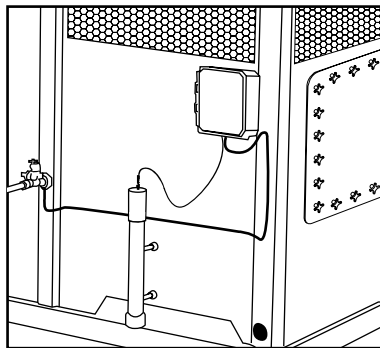
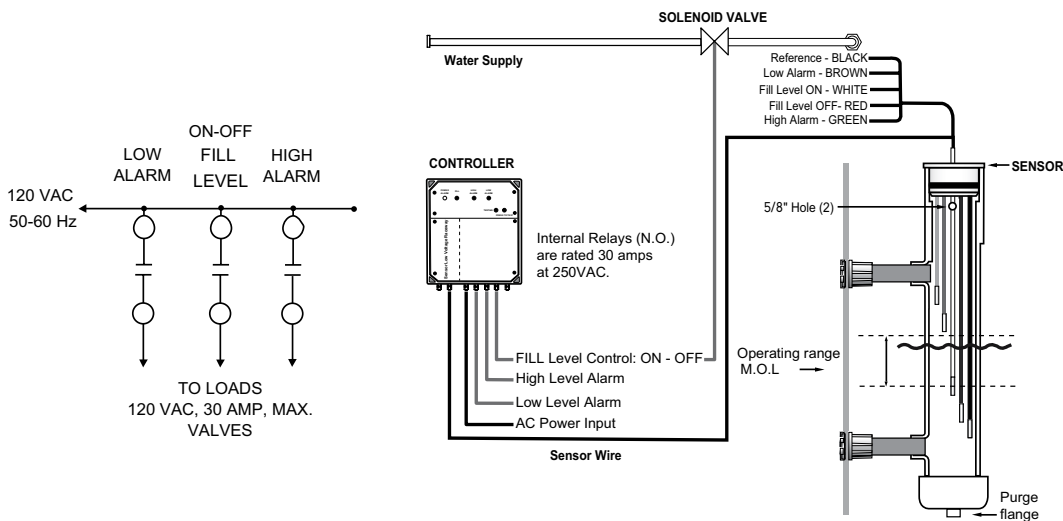

Figure A-52: Electrical Water level control system
Figure A-53: Electrical Connections & Water Level Control Parts
Electric water level control system is an optional accessory offered by REYMSA includes water level controller, stilling chamber, and solenoid valve for water make up (see Figure A-52 & Figure A-53).
2. The sensor assembly (Figure A-53) must be made so that the end of the PVC pipe is below the minimum level of water to be maintained.